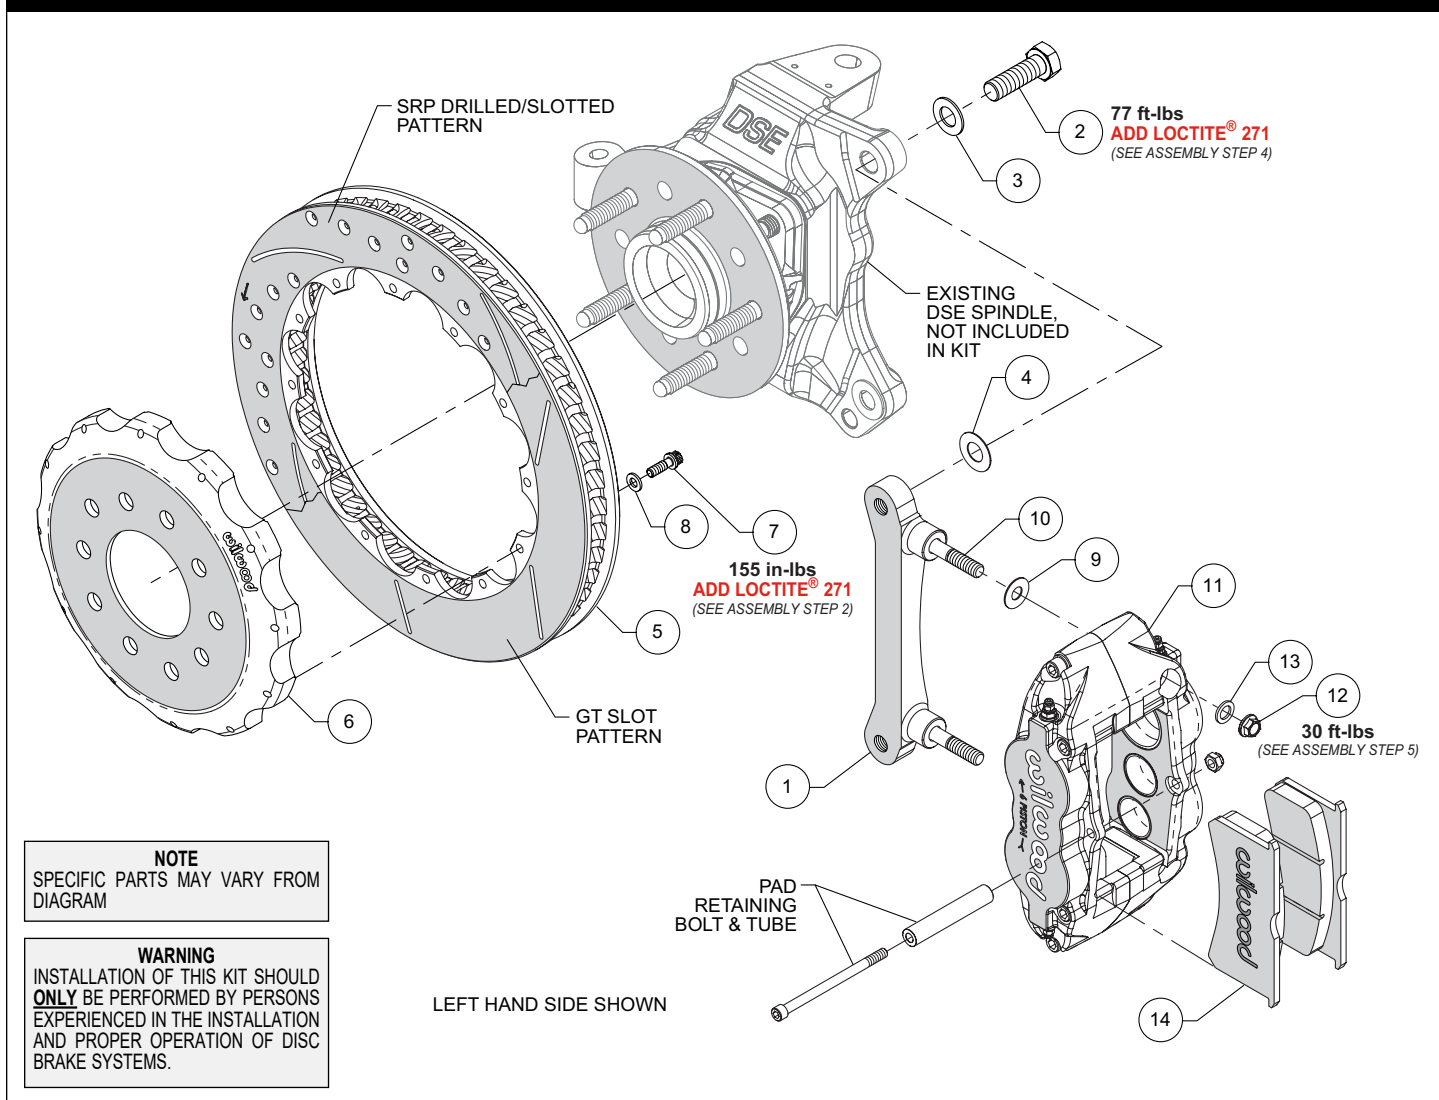
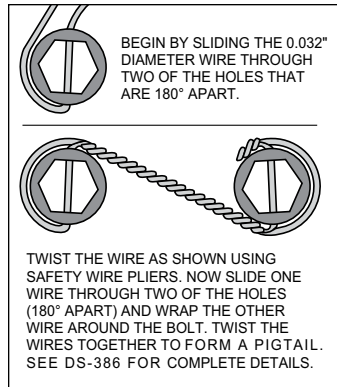

Figure 1. Typical Installation Configuration
Figure 3.
**NOTE:** Numbers in parenthesis refer to the parts list and Figure 1 on the preceding pages.
**STEP 1** The caliper mount bracket (1) should initially be installed with clean, dry threads on the mounting bolts. Orient the bracket as shown in Figure 1 and Photo 1, and install using bolts (2) and washers (3). Initially place one .029" thick shim (4) on each bolt between the bracket and upright, Figure 1 and Photo 2. Temporarily tighten the mounting bolts. **NOTE:** The bracket must fit squarely against the mount bosses on the upright. Inspect for interference from casting irregularities, machining ridges, burrs, etc. Later, after the caliper alignment has been checked, the mount bolts will be secured using red Loctite® 271.
**STEP 2** Orient the rotor (5) and the hat (6) as shown in Figure 1 and Photo 3. Attach the hat to the rotor using bolts (7) and washers (8). Apply red Loctite® 271 to the bolt threads and torque to value shown in Figure 1 using a criss-cross pattern. For an added measure of security, the bolts may be safety wired using standard 0.032 inch diameter stainless steel safety wire as shown in Figure 3. Please refer to Wilwood's data sheet DS-386 (available at [www.wilwood.com/Pdf/DataSheets/ds386.pdf](http://www.wilwood.com/Pdf/DataSheets/ds386.pdf)) for complete safety wire installation instructions.
**STEP 4 NOTE:** This kit contains distinct right and left hand calipers that must be mounted in a specific direction, as described below. Initially place one .035" thick shim (9) on each stud (10) as shown in Figure 1 and Photo 5. Mount the caliper (11) onto the bracket (1) using lock nuts (12) and washers (13), Figure 1. Ensure that the caliper is mounted so that the largest pistons are at the rotor exit end of the caliper, in relation to the direction of rotor rotation. Temporarily tighten the lock nuts and view the rotor through the top opening of the caliper. The rotor should be centered in the caliper, Photo 6. If not, adjust by adding or subtracting shims (4) between the bracket and the upright. Always use the same amount of shims on each of the two mounting bolts. Once the caliper alignment is correct, remove the bracket mounting bolts (2) one at a time, apply red *Loctite*® 271 to the threads, and torque to value shown in Figure 1.
**STEP 5** Remove the caliper center bridge pad retainer bolt, nut, and tube from the caliper. Insert the brake pads (14) into the caliper, with the friction material facing the rotor, as shown in Photo 7. Check that the top of the brake pad is flush with the outside diameter of the rotor, Photo 8. If not, adjust by adding or subtracting shims (9) between the caliper and the bracket. After the caliper pad height is set, torque the caliper lock nuts (12) to value shown in Figure 1. Secure the brake pads in place with the center bridge pad retainer tube, bolt, and locknut, Photo 9. The locknut should be snug without play in the bolt or tube. Be cautious not to over tighten.